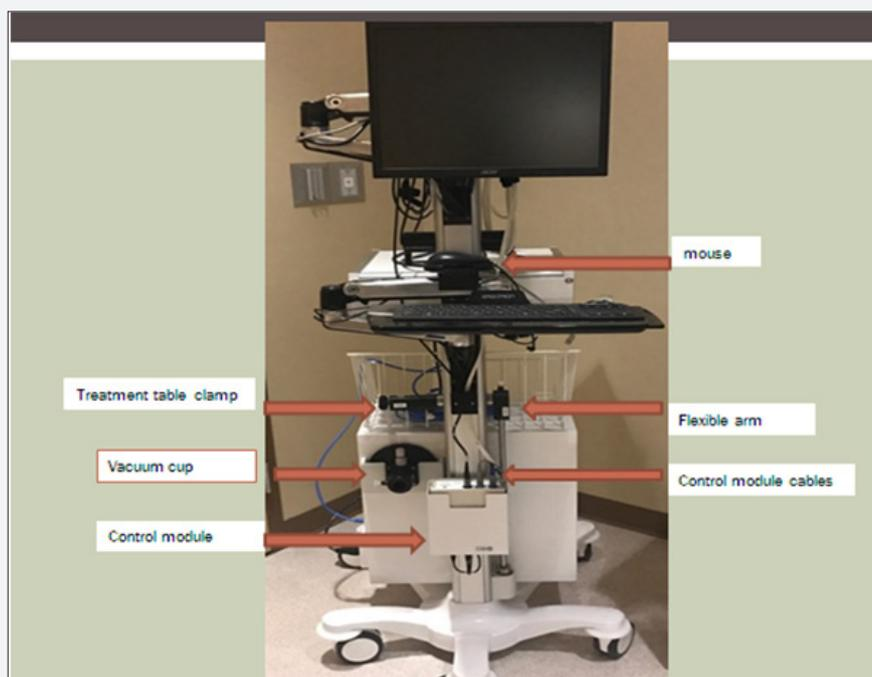

Figure 1: Trolley.
v. A patient controlled balloon valve lets the patient do breath-hold treatments at the same lung volume for each field (Figures 1 & 2).